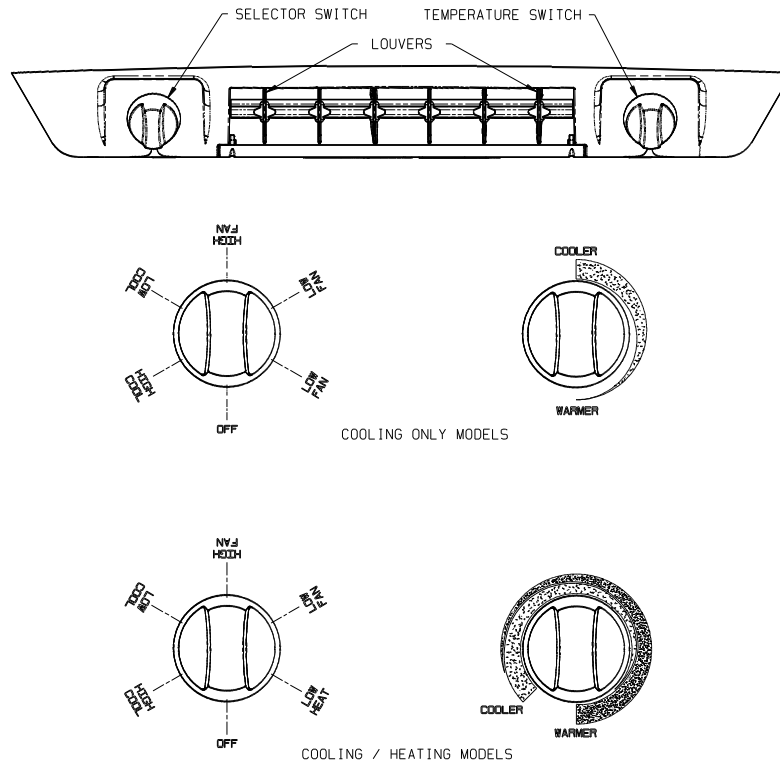

FIGURE 1
A. The Selector Switch – The selector switch determines which mode of operation the air conditioner will be in. By rotating the selector switch, the operator can obtain any system function desired. System functions vary depending upon options of both the roof top unit and ceiling assembly. Figure 1 shows selector switch location and lists all available functions by model.
- B. The Thermostat (temperature control) – The thermostat regulates the “ON” and “OFF” temperature setting at which the compressor will operate (See Figure 1).
I. For Cooling (Refer to Figure 1, page 3).
IV. For Heating (Refer to Figure 1, page 3).
V. For Air Circulation Only (Refer to Figure 1, page 3).